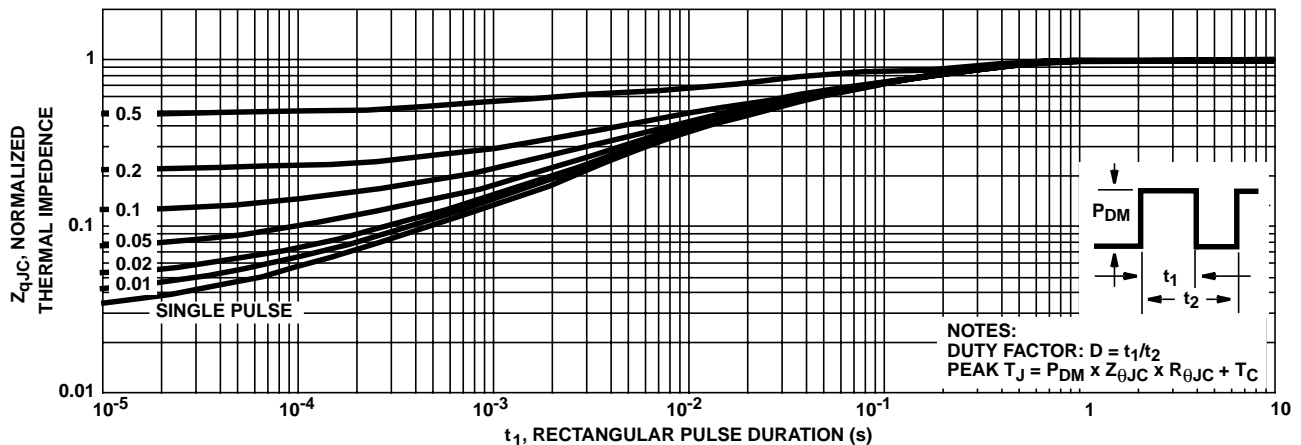

FIGURE 3. NORMALIZED MAXIMUM TRANSIENT THERMAL IMPEDANCE
- Repetitive Rating: Pulse width limited by Max junction temperature. See Transient Thermal Impedance curve (Figure 3).